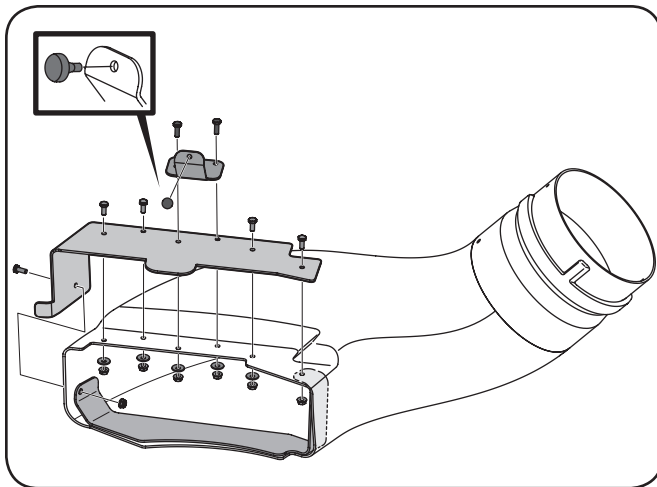

Figure 4-15
1. Insert the inner boot bracket into the chute elbow as shown in Figure 4-15.
2. Install the discharge chute top mounting bracket onto the topside of the discharge chute using five (5) 710-0751 hex bolts, as shown in Figure 4-15, and securing with three (3) 736-0270 bevel washers and five (5) 712-3027 flange lock nuts, all included in hardware pack 689-00337.
3. Install the chute support bracket into the center two holes of the top mounting bracket, as shown in Figure 4-15, using two (2) 710-3015 hex bolts and securing with two (2) 736-0270 bevel washers and two (2) 712-3027 flange lock nuts, all included in hardware pack 689-00337. Be sure to mount the bracket with the raised tab facing the tractor, as shown.
4. Install the (1) 735-0199A rubber bumper, from hardware pack 689-00340, into the hole provided on the chute support bracket, as shown in the inset of Figure 4-15. The bumper should be orientated towards the tractor, as shown.